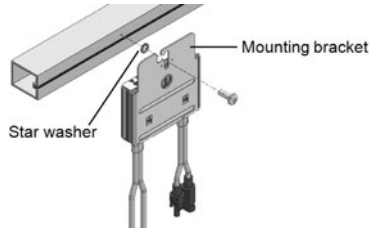

Figure 5: Power optimizer installation and grounding using a star washer
- Determine the power optimizer mounting location and use the power optimizer mounting brackets to attach the power optimizer to the support structure (See *Figure 5*). It is recommended to mount the power optimizer in a location protected from direct sunlight. For frame-mounted power optimizers follow the instructions supplied with the optimizers, or refer to https://www.solaredge.com/sites/default/files/installing_frame_mounted_power_optimizers.pdf.
- For mounting on a grounded metal rail:** Use the provided 5/16" stainless steel grounding star washer between the railing and the flat side of the mounting bracket. The grounding washer should break through the anodize coating of the railing to ensure low resistive connection. Apply torque of 9.5 N*m / 7 lb*ft. See *Figure 5*.